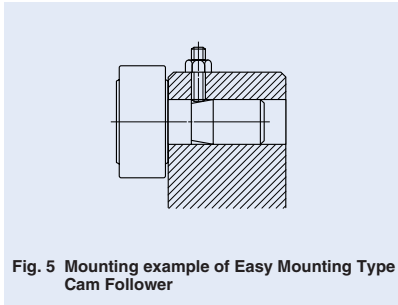

Fig. 5 Mounting example of Easy Mounting Type Cam Follower
⑥ For mounting Easy Mounting Type Cam Followers, it is recommended to fix the fixing screw from the upper side to the stepped portion of the stud. (See Fig. 5.)